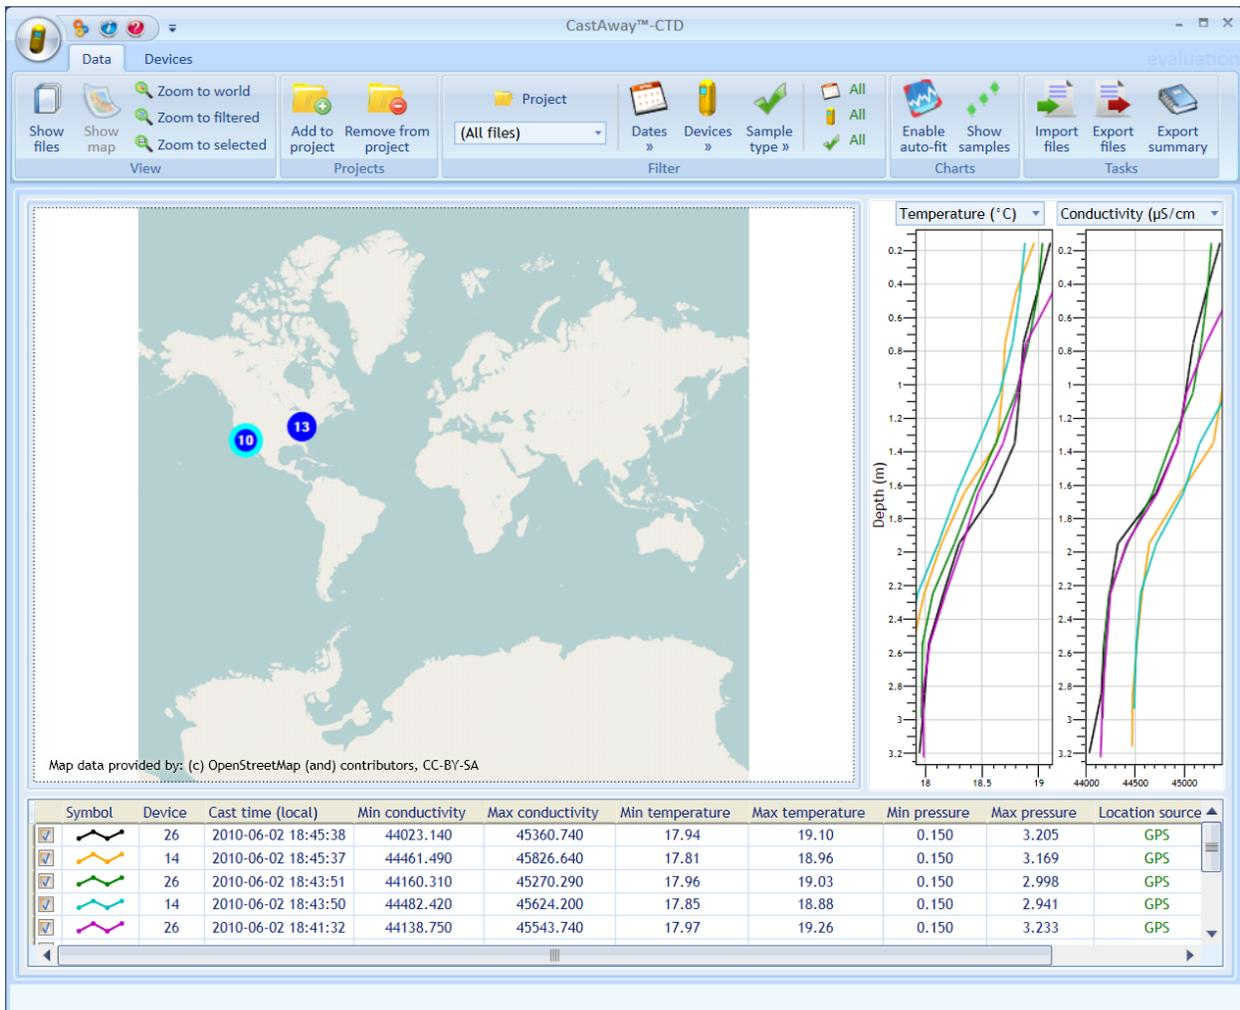

Figure 11 – Software Map View
Figure 11 shows the main screen of the CastAway™-CTD Software.
- **Show Map** gives the map view, seen in Figure 11.
- To select files from the **Show Map** view (Figure 11):